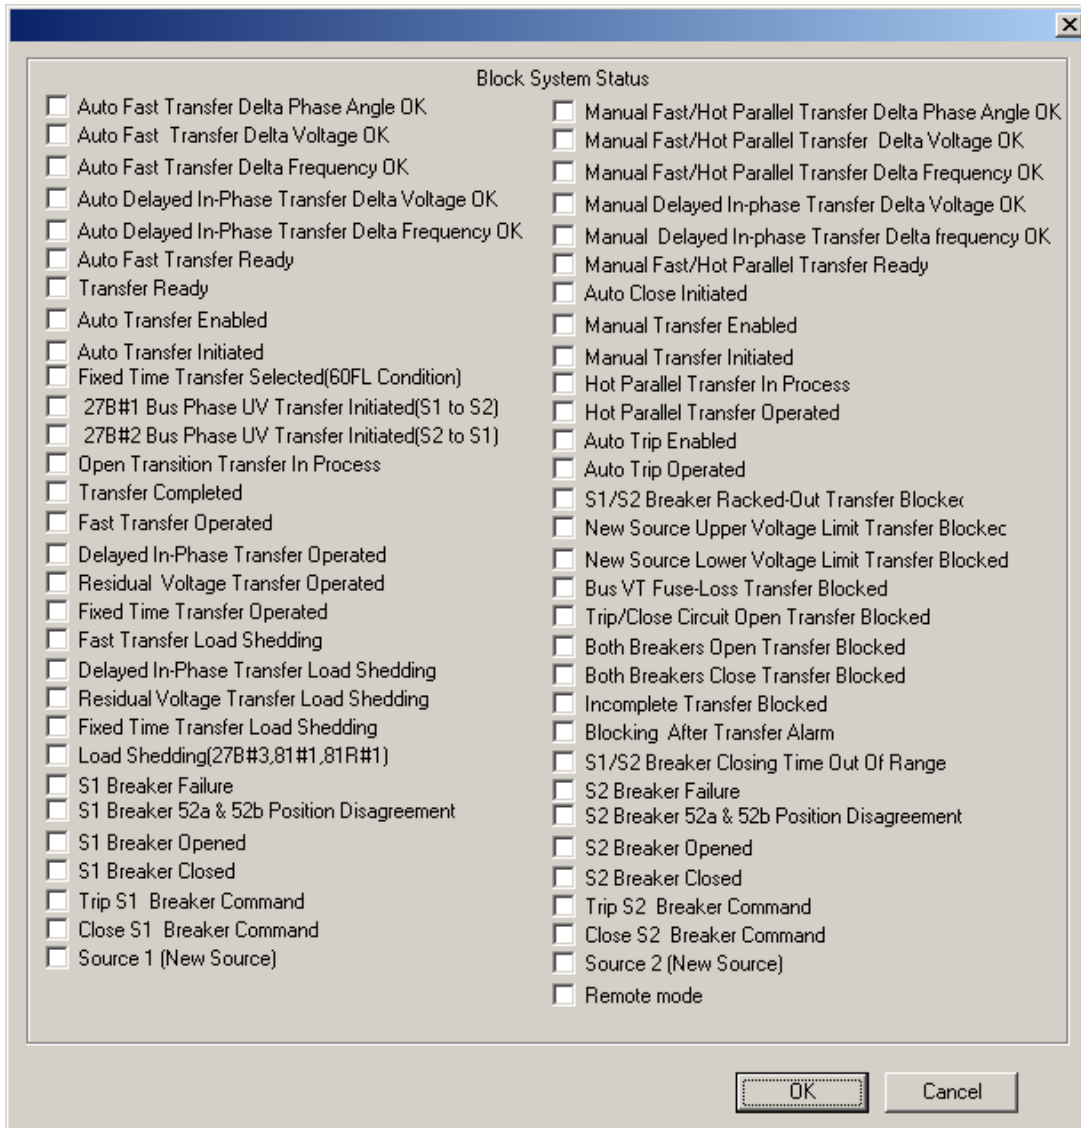

Figure 4-100 Selection Screen for Block System Status
19. If desired select Block System Status button. ISSLogic will display the Block System Status Selection screen (Figure 4-100).